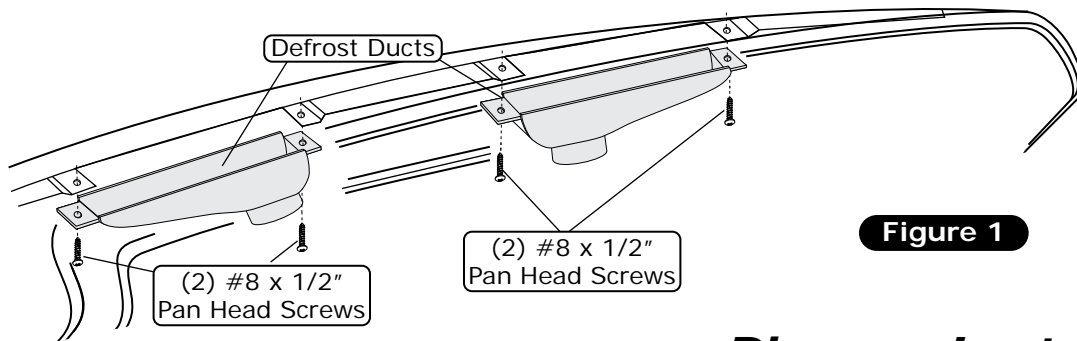

Figure 1
1. Align the defrost duct with the opening in the dash, if applicable. Use OEM mounting hole locations or mark and drill 1/8" mounting holes. Use (4) #8 x 1/2" pan head screws to secure the new defrost ducts as shown in Figure 1, below.